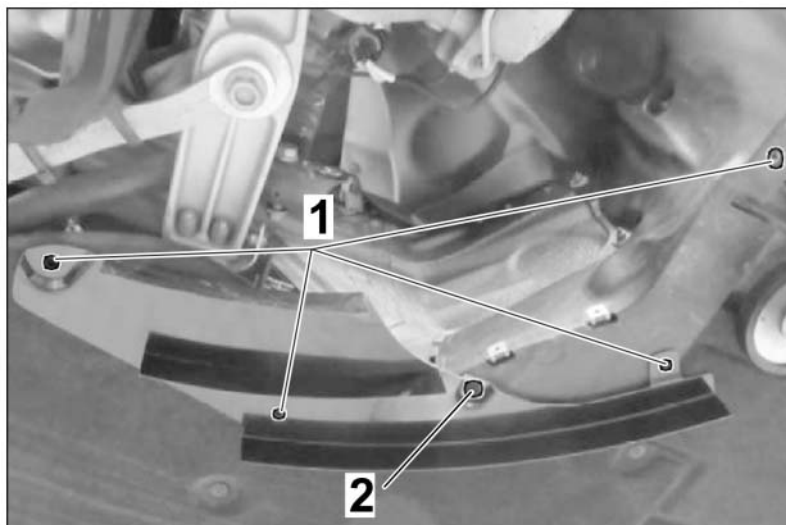

Figure 35
5.3.2 Pre-assemble the air control element (front) with a new ST4.8 x 19 tapping screw with collar (fastening kit included) on the underbody on the left-hand side (⇒ *Figure 35*).